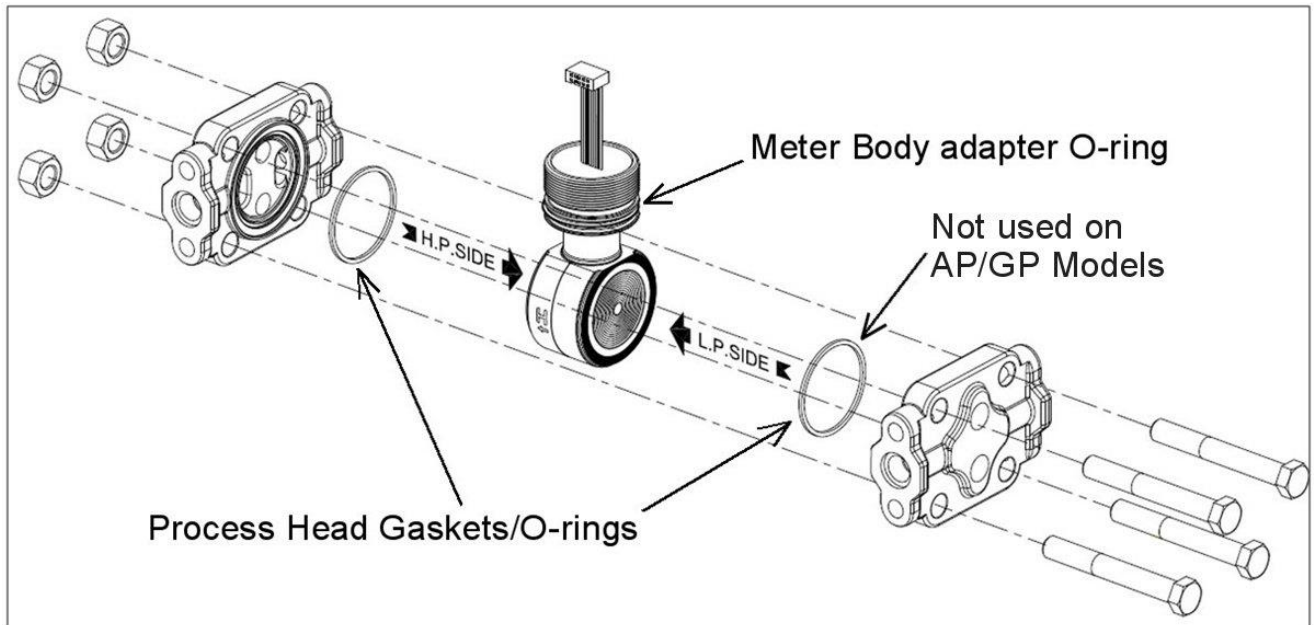

Figure 66 – ST 700 Basic Transmitter - Meter Body Reassembly
8. Refer to Figure 66. Use a 2mm hex wrench to completely loosen the set screw on the outside of the housing to permit rotating the meter body.
15. Refer to Figure 66. Apply Dow Corning #33 silicone grease to the meter body adapter O-ring and carefully assemble the O-ring to the meter body. Assemble the process head(s) and bolts to the new meter body. For now, make the bolts only finger-tight.